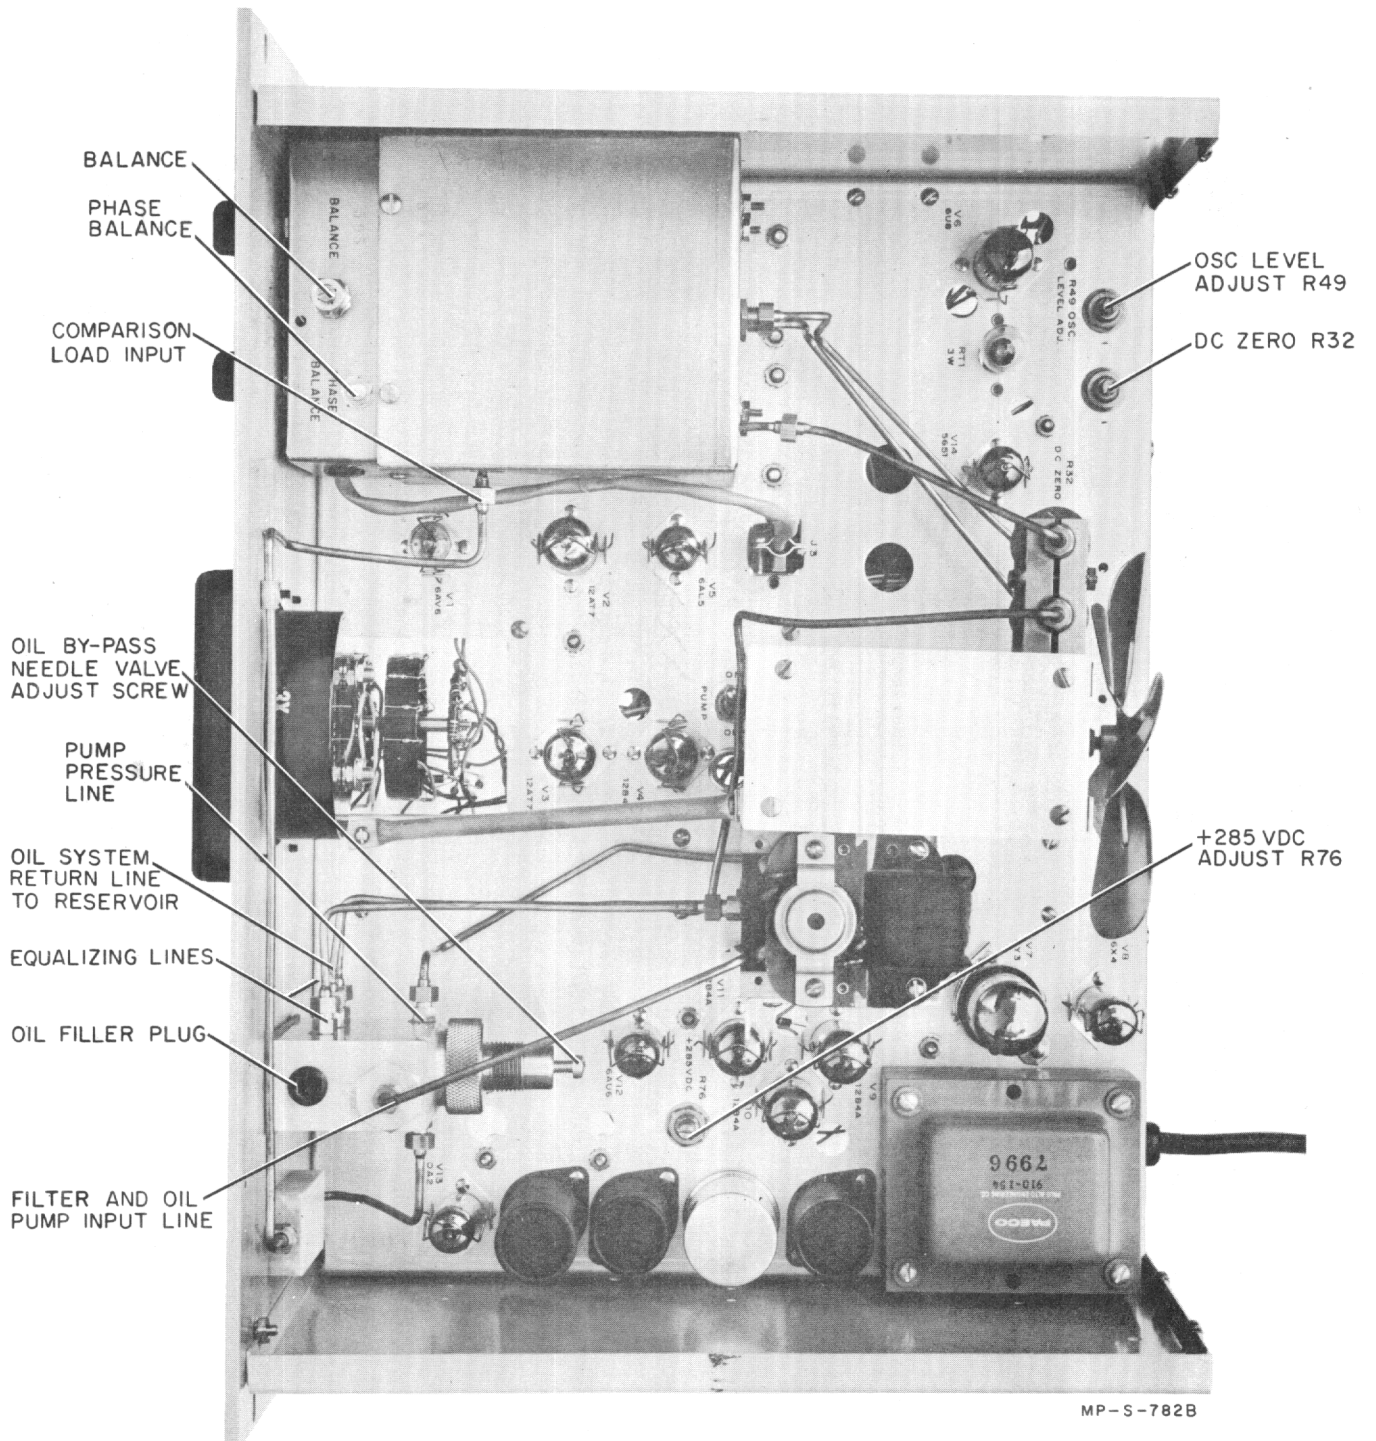

Figure 4-2. Top View of Model 434A
- c. Turn instrument right side up and unplug P3 (see figure 4-2).